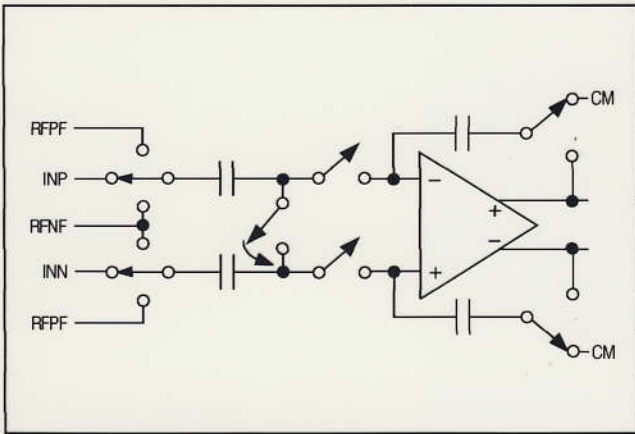

Figure 2. Simplified MDAC Architecture
Fully differential switched-capacitor circuits (SC) are used for both the reference and analog inputs (Figure 2). This allows either single-ended or differential signals to be used in the reference and/or analog signal paths. The signal voltage on these pins (INP, INN, RFP, RFN) should never exceed the analog supply rail, AVDD, nor fall below ground.